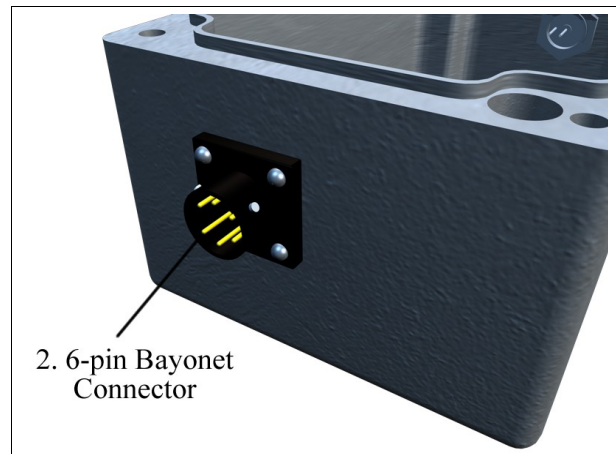

Figure 2-2: 6-pin Connector
2. A 6-pin circular male bayonet connector (Figure 2-2) is used to attach the instrumentation cable to the AWP-24-2. The instrumentation cable carries power to the electronics and carries the high-level output signal from the electronics to a remote data acquisition system or data recording device. The pin-out information for the connector and the instrumentation cable is shown in Table 2-1 below.